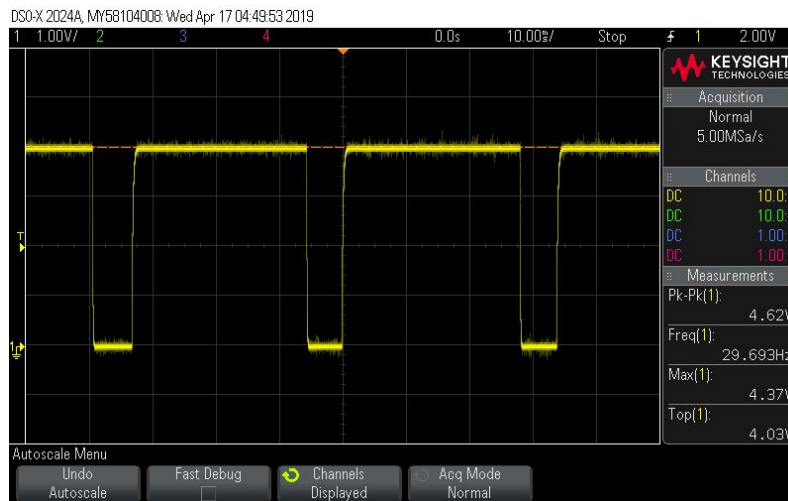

Figure 2.7: Sensor output
Step 2: Ensure that the output of the sensor is clear. Move the sensor closer to the shaft (but not touching) if it is not clear. See *Figure 2.7: Sensor output* for an image of a clear output.